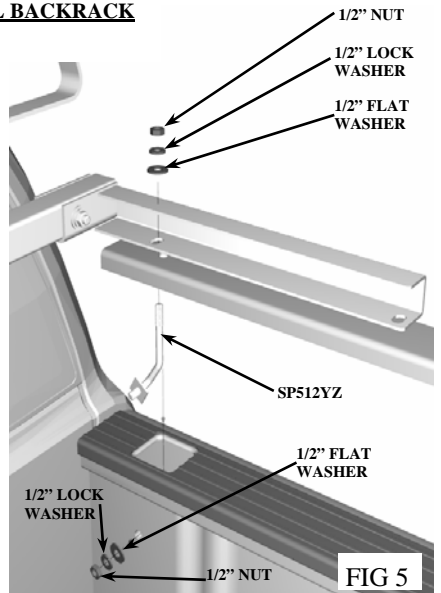

FIG 5
- Insert SPB512YZ (picture on reverse) from the BACKRACK hardware bag into the two front stake pockets as outlined in Figure 5. Thread the 3/4" nut with lock washer and washer onto the 3/4" stud of the stake pocket bolt. Tighten all stake pocket bolts facing truck bed. Discard the remaining HWB044 which will not be required, since the front stake pocket hardware will be used from the BACKRACK.